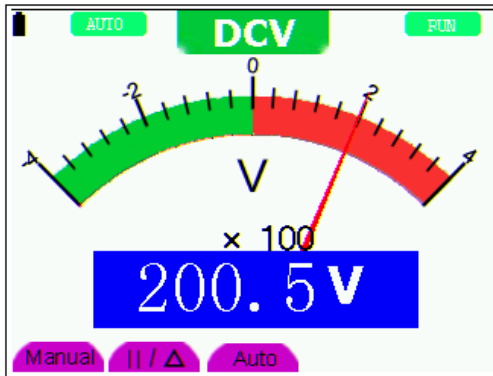

Figure 38.- DC voltage Measurement
3. Connect the red and black leads to the measured point and the measured point voltage value is displayed on the screen. Now, you can see a screen that looks like the following Figure 38.
4. Connect the red and black leads to the measured point and the **AC** current value of the measured point will be displayed on the screen. Look at the display; you can see a screen that looks like the following figure 38.